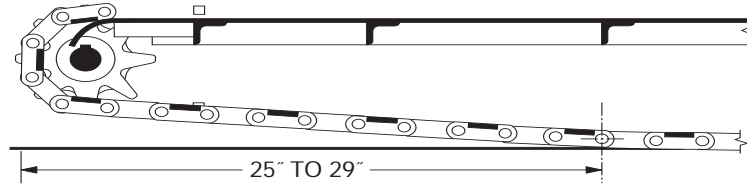

Figure 5
2. Shut the machine off and open the rear access door above the airlock. Remove any build-up under the floor pan between the chain links and the rear catch pan so an accurate measurement can be made. Check the tension on the floor chain in the Bark Blower as shown in Figure. 5 below: